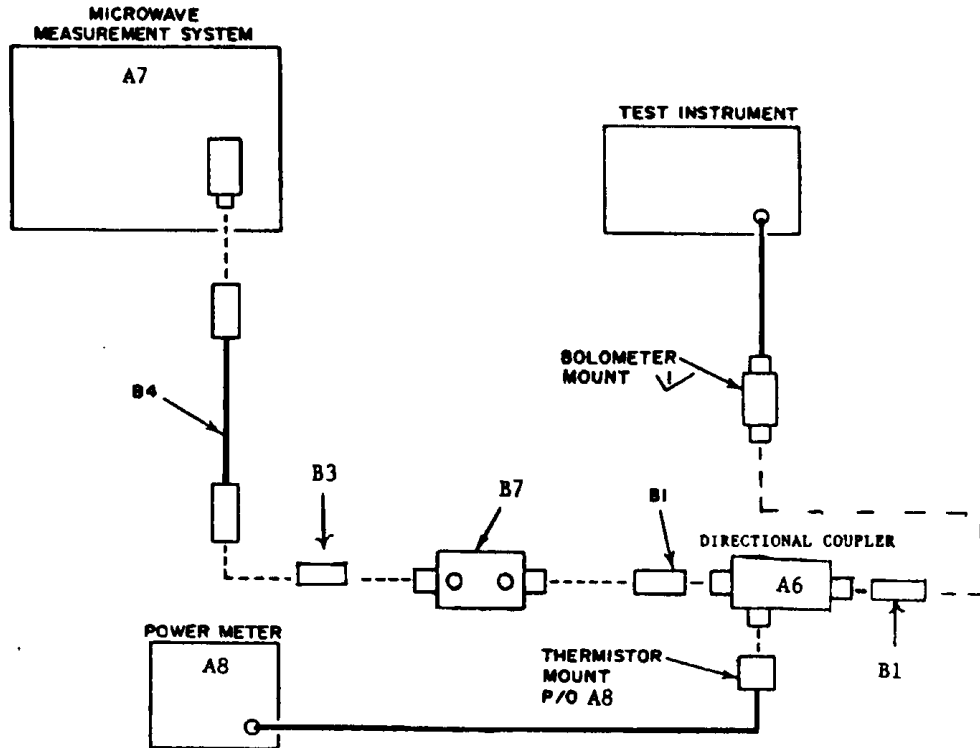

Figure 3. Power input - equipment setup.
(1) Position controls as listed in (a) through (e) below:
(2) Adjust **BIAS COARSE** and **FINE** controls for a null indication on **TI NULL INDICATOR** meter.
(3) Set **BIAS-READ** switch to **READ** and observe that null indication remains on **TI NULL INDICATOR** meter.
(4) Set **POWER RANGE** switch to **10 MW +10 DBM** and **BIAS-READ** switch to **BIAS**.
- (5) Repeat (2) and (3) above.
- (6) Connect equipment as shown in figure 3.